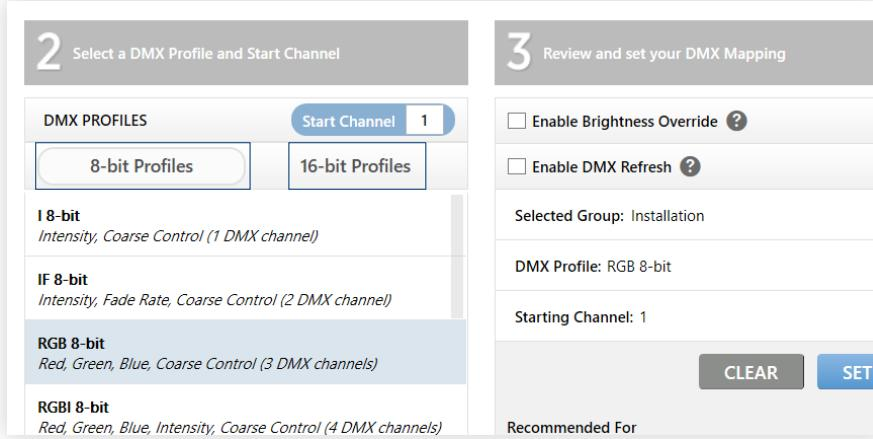

fig. 66
- 2 Next, choose the Analog I/O tab in Integration. The tab is pictured in fig. 66.
- 3 For at least one port, expand the Select Port Type dropdown and select the Contact Closure option. See fig. 66 for location.